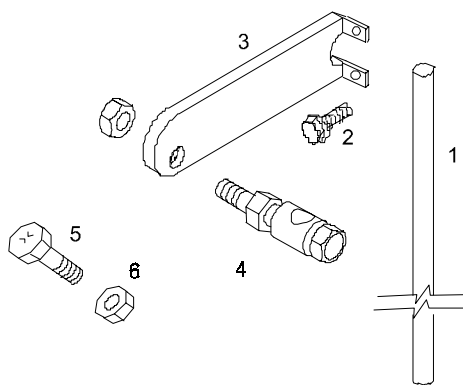

Figure 1: Kit Components
2. Secure the blade arm (item 3 in Figure 1) to the preferred driving blade.
- 16-gauge blade: Use the two #12-24 x 1/2 inch hex-head, self-tapping screws (item 2 in Figure 1).
- Double-piece blade: Use the two #12-24 x 1/2 inch hex-head, self-tapping screws (item 2 in Figure 1).
- Airfoil blade: Use the two #10-32 x 1-1/4 inch hex-head screws (item 5 in Figure 1) and two #10-32 hex nuts (item 6 in Figure 1).
3. Remove the nuts from the ball joints (item 4 in Figure 1) and insert the threaded portion of the ball joint through the holes in the blade arms. Both ball joints should always be on the same side of the blade arm.
5. Slide the linkage rod (item 1 in Figure 1) into the ball joints and adjust for proper length.